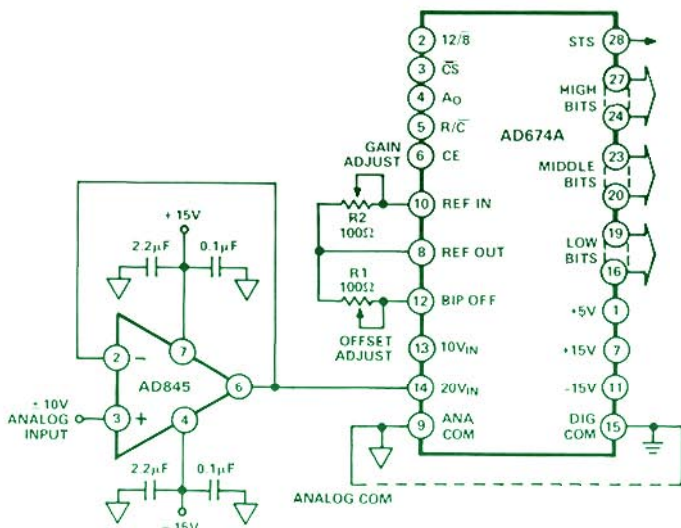

Figure 10. AD845 as a unity-gain ADC buffer.
Driving the Input of an A/D Converter: An op amp that drives the input of a successive-approximation (SA) converter must provide a constant output voltage while load conditions are changing (Figure 10). In the SA converter, the input current is compared to